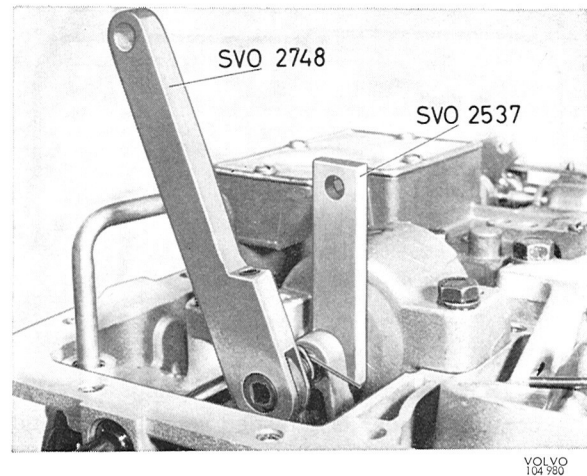

Fig. 4-126. Front brake band adjustment
25. Place the spacer block 2537 between the bolt and cylinder, see Fig. 4-126. Tighten the bolt with torque wrench 2748 until the ratchet handle clicks out. This corresponds to a torque of 115 Ncm (10 lb.in.).